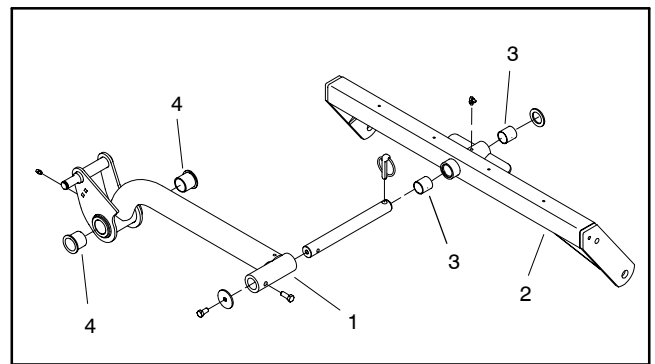

Figure 15
7. Inspect bushings in lift arm and carrier frame (Fig 15). If bushings are worn or damaged, replace bushings.